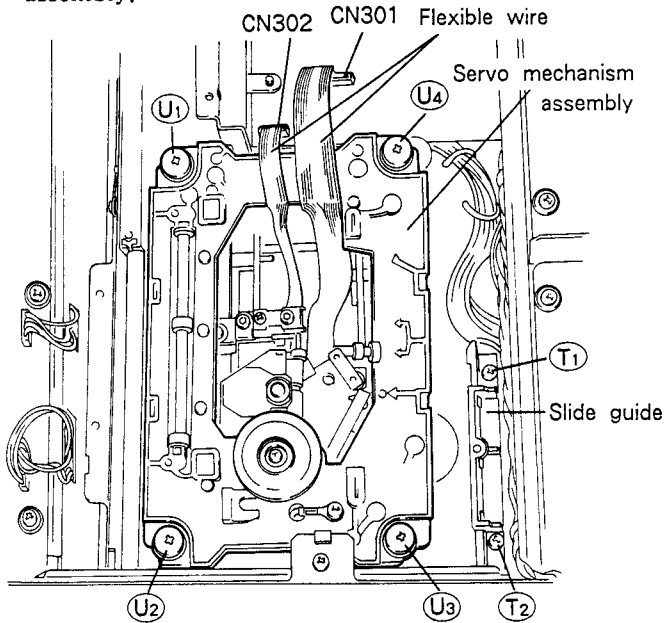

Fig. 2-6.
2. Remove the slide guide. (Screws T₁ and T₂, refer to Fig. 2-6.)